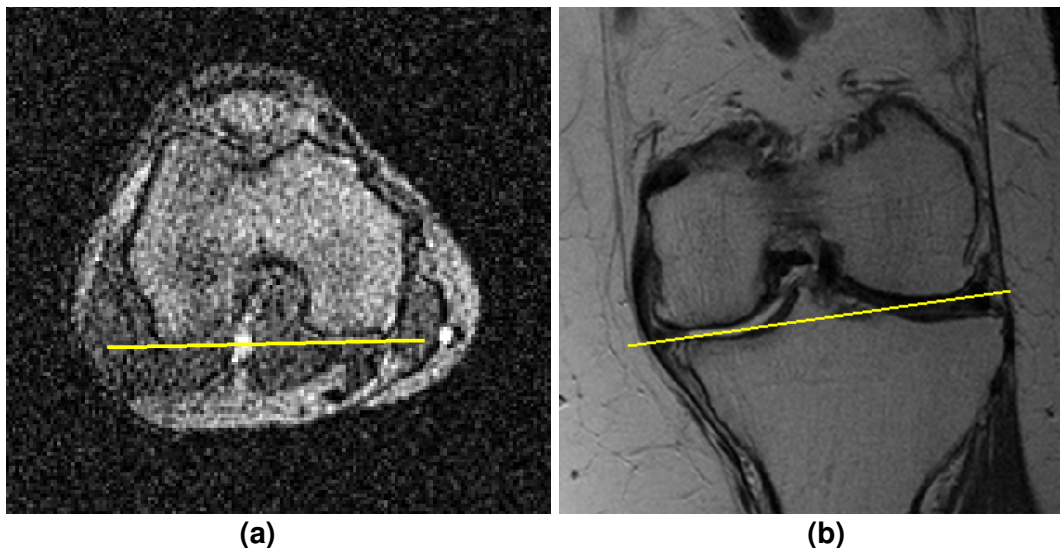

Figure 2
1. Using the best axial and coronal locator images that show in Figure 2